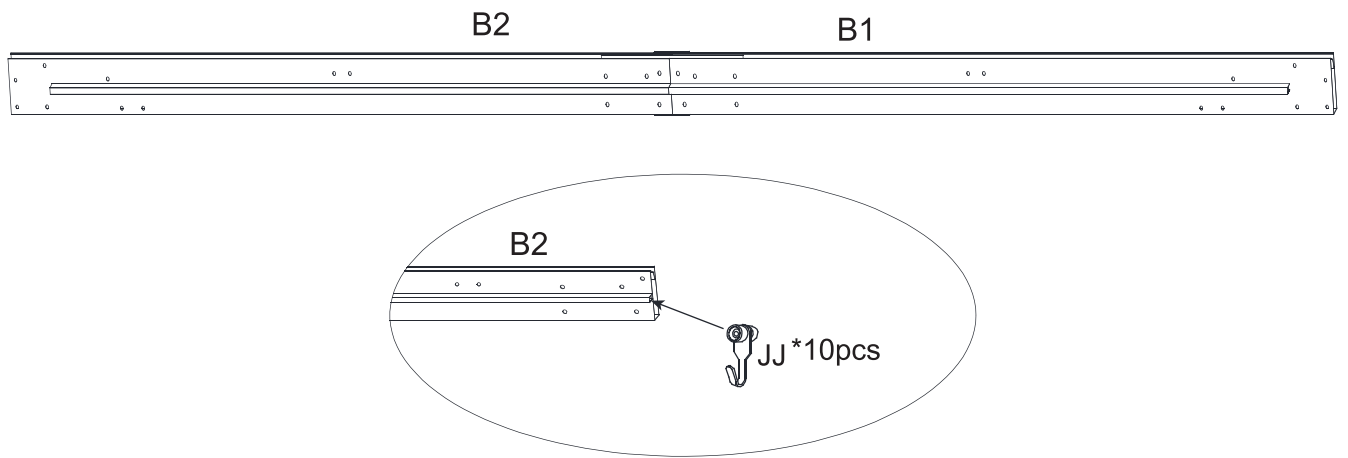

Figure 3.1
3.1. Slide the Hang Wheels (JJ) into the Right Lintel (B2). See Figure 3.1.